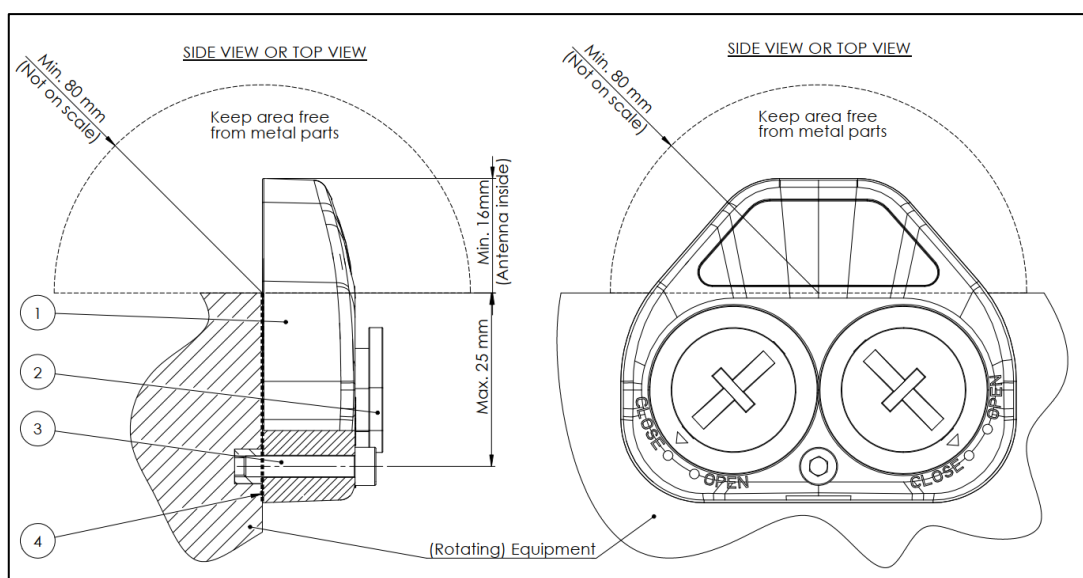

Figure 4: Sensor mounting instruction (extract)
Installation of the sensors shall be made according to Fig.4, keeping the area around the internal antenna free from any metal obstruction or metal part. This way, the antenna gain is maximized.
- i. make sure the sensor antenna is not “hidden” by a metal object within 8 cm reach. Re-install the sensor with a free sensor antenna according to the installation instructions of the sensor (see Fig.4)